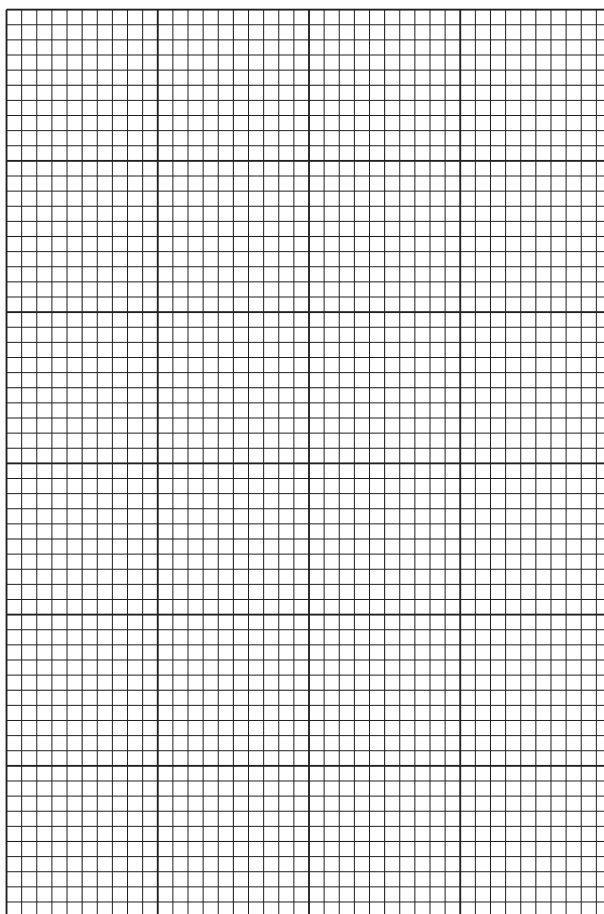

Fig. 1.4
- (i) Plot a graph of the data in Table 1.2 on the grid in Fig. 1.4.
- (ii) Use the graph in Fig. 1.4 to estimate the Michaelis–Menten constant, K_m .
- (iv) Using the graph in Fig. 1.4, explain the change in the rate of reaction between 0.00 mol dm^{-3} of maltose and 3.95 mol dm^{-3} of maltose.